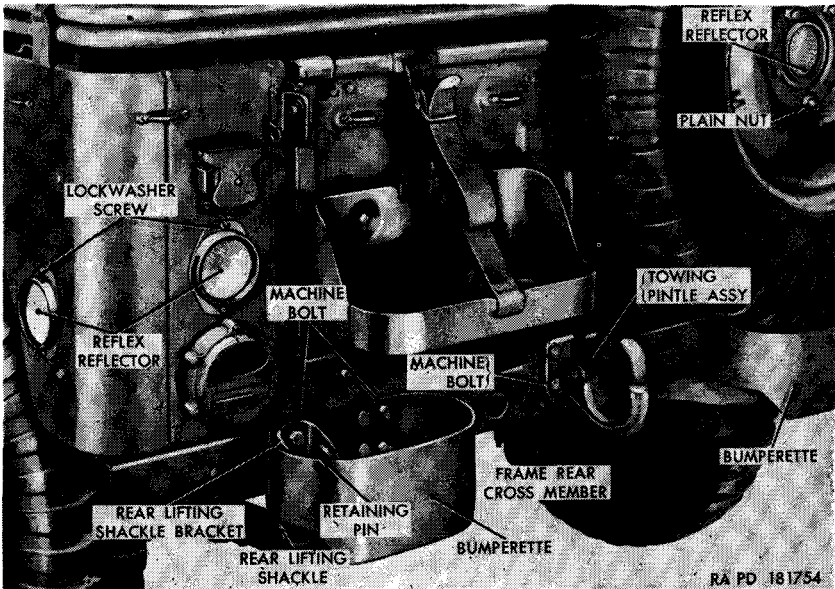
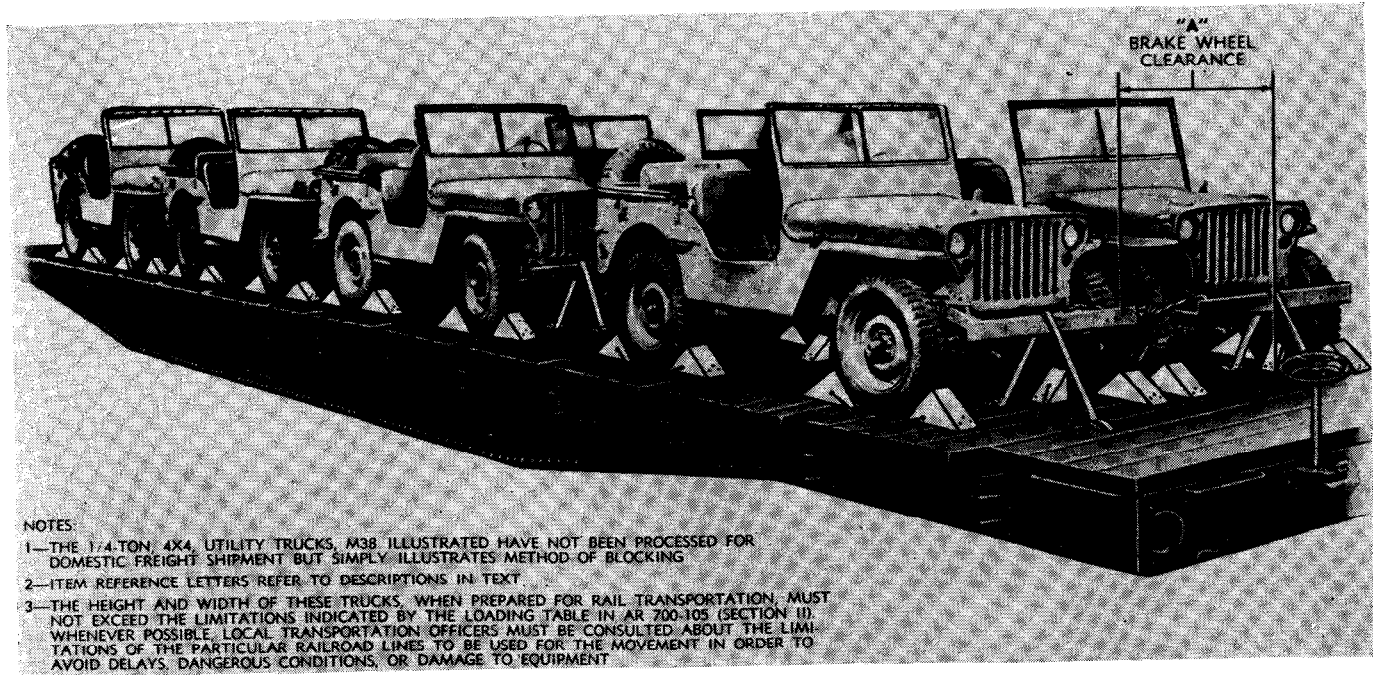
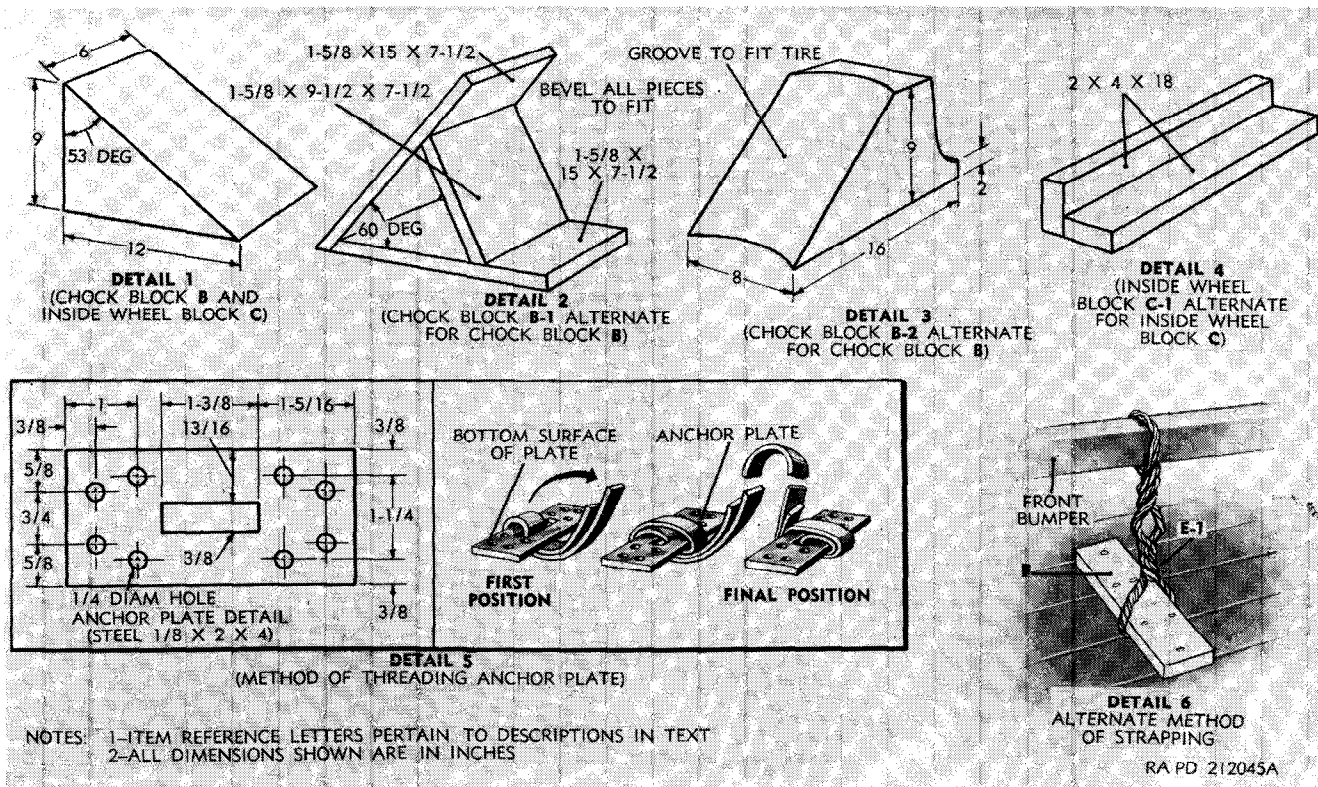

Figure 132. Bumperettes, rear lifting shackles, towing pintle assembly, and reflex reflectors.
Figure 136. Methods of blocking the 1/4-ton 4x4 utility trucks M38 on flatcars.
Figure 137. Methods of blocking the 1/4-ton 4x4 utility trucks M38 on flatcars (details)—Continued.
b. *Rear Lifting Shackles with Brackets* (fig. 132).
- (1) *Removal.* Pull the retaining clip out of the retaining pin. Withdraw the pin from the shackle bracket and remove
- (2) *Installation.* Position the shackle bracket inside the bumperette. Push two  $\frac{1}{2} \times 1\frac{1}{4}$  bolts through the shackle bracket, bumperette, and frame rear cross member and install two  $\frac{17}{32}$ -inch flat washers,  $\frac{1}{2}$ -inch lockwashers, and  $\frac{1}{2}$ -inch plain nuts. Place the shackle in the bracket, insert the retaining pin through the bracket and shackle, and install the retaining clip through the end of the pin.
*c. Towing Pintle (fig. 132).*
- (1) *Removal.* Remove the four nuts, lockwashers, and bolts securing the towing pintle to the frame rear cross member and remove the pintle.
- (2) *Installation.* Position the towing pintle on the frame rear cross member and secure in position with four  $\frac{1}{2} \times 1\frac{7}{8}$  bolts,  $\frac{1}{2}$ -inch lockwashers, and  $\frac{1}{2}$ -inch nuts.
*a. Bumper Bar (fig. 136).*
- (1) *Removal.* Remove the front lifting shackles and shackle brackets (par. 267a(1)). Remove the six plain nuts, lockwashers, and bolts securing the bumper bar to the frame side rails and remove the bumper bar.
- (2) *Installation.* Position the bumper bar at the front of the vehicle, aligning the mounting holes in the bar with the mounting holes in the frame side rails. Secure the bar to the side rails with six  $\frac{3}{8}$  x  $\frac{3}{4}$  bolts,  $\frac{3}{8}$ -inch lockwashers, and  $\frac{3}{8}$ -inch plain nuts. Install the front lifting shackles and shackle brackets (par. 267a(2)).
b. *Bumperettes* (fig. 132).
- (1) *Removal*. Remove rear lifting shackle (par. 267b(1)). Remove the two plain nuts, lockwashers, and bolts securing the bumperette to the frame rear cross member and remove the bumperette.
- (2) *Installation*. Position the bumperette on the frame rear cross member and secure in position with two  $\frac{1}{2}$  x  $\frac{7}{8}$  bolts,  $\frac{1}{2}$ -inch lockwashers, and  $\frac{1}{2}$ -inch plain nuts. Install the rear lifting shackle (par. 267b(2)).
## **270. Reflex Reflectors** (fig. 132)
Association of American Railroads. Additional blocking may be added, as required, at the discretion of the officer in charge. Double-headed nails may be used, except in the lower piece of two piece cleats. All reference letters in *b* through *e* below refer to details and locations in figures 136 and 137. The number of vehicles to be loaded will depend upon the length of flatcar.
*Note.* Three methods of blocking are given herein; the method to be used will depend on dimensions of flatcars and availability of required blocking materials. The instructions herein are for vehicles, double-loaded, as shown in figure 136. Vehicles may be single-loaded, double-deck loaded, or incline-loaded (with the front wheels of the second vehicle positioned in the rear body of the first vehicle and the front wheels of the third vehicle positioned in the rear body of the second vehicle, etc).
*Note.* Alternate type B-1 or B-2 chock blocks may be constructed as shown in details 2 and 3, figure 131, and located against tires as shown in details 1 and 2, figure 136. Single-loaded vehicles require chock blocks at the front and rear of all four wheels.
- (2) *Inside wheel blocks "C"* (6 x 9 x 12, four rqr per truck constructed as shown in detail 1, fig. 137). Locate the 6 x 9 surface of block flush against the inside of each wheel, as shown in figure 136. Nail heel of each block to car floor with four forty-penny nails and toenail each side to floor with one forty-penny nail.
*Note.* Alternate type inside wheel blocks C-1, may be constructed as shown in detail 4, figure 137, and located against tires as shown in detail 2, figure 136. When inside wheel blocks C-1 are used, cushioning material "D" (wtrprf paper or burlap) will be placed between blocks C-1 and inside of tire. The material should extend 2 inches beyond block on car floor and 2 inches above block against side of tire.
- (3) *Vehicle strapping "E" (1 in. No. 14 BW ga, hot-rolled steel, lgh to suit, two rqr per truck)*. Locate strapping "E" over front bumper of vehicle and through rear pulling hook of vehicle, as shown in figure 136. Pass strapping through two anchor plates (detail 5, fig. 137) and nail anchor plates to car floor with eight twentypenny nails. Substitute, if desired, four strands of No. 8 gage, black annealed wire, E-1, twist-tie to form cables. Pass the cable over the bumper or through the pulling hook underneath and around random 2 x 4 cleat "F" (detail 6, fig. 137). Nail cleat lengthwise to car floor and twist-tighten cables to remove all slack.
- (4) *Vehicle ties "G" (6 strands, 3 wrappings, No. 8 ga, black anld wire, lgh to suit)*. Pass cables around frame (bumpers, hooks, brackets, etc.) at front and rear of every two side-by-side vehicles as shown in figure 136. Twist-tighten cables to remove all slack.
- (1) *Wheel cleats "N" (4 in. wd, 6 in. high, 8 in. longer than width of car, four rqr per truck)*. Locate a cleat "N" across the front and rear of front and rear wheels as shown in detail 3, figure 136, and toenail each to car floor with four thirtypenny nails.
- (2) *Wheel supports "Q" (2 x 4, 2 in. longer than distance between outside faces of cleats "N", four rqr per truck)*. Locate the two-inch side of support "Q" against each side of car floor. Secure each end to cleats "N" with 1/2-inch diameter bolt, nut, and washer, as shown in detail 3, figure 136.
- (3) *Wheel cleats "J" (2 x 4, 2 in. longer than distance between outside faces of cleats "N", four rqr per truck)*. Locate cleat "J" across top cleats "N" with sides of cleats "J" flush against inside of tires, as shown in detail 3, figure 136. Nail end of each cleat "J" to cleats "N" with three twentypenny nails.
- (4) *Support cleats "P" (2 x 4 x 18, eight rqr per truck)*. Locate four cleats "P" equidistant across car floor, with ends flush against cleats "N", as shown in detail 3, figure 136. Nail cleat to car floor with four thirtypenny nails. Locate one cleat on top of each lower cleat and nail with four thirtypenny nails.
and nail to car floor with ten thirtypenny nails; locate a cleat on each lower cleat and nail with ten thirtypenny nails as shown in detail 4, figure 136.
- (2) *Wheel side cleats "J"* (2 x 4, lgh 4 in. longer than distance between outer face of cleats "H," four rqr per vehicle). Locate a cleat "J" against inside or outside of wheels as shown in detail 4, figure 136, and nail each end to cleats "H" with three twentypenny nails.
- (3) *Intermediate cleats "K"* (2 x 4, eight rqr per vehicle). Locate a cleat "K" on top of cleats "H," with end flush against cleat "J," and nail to cleats "H" with two twentypenny nails as shown in detail 4, figure 136.
- (4) *Upper cleat "L"* (2 x 4, lgh to equal cleats "H", four rqr per truck). Locate a cleat "L" across cleats "J" and nail to cleats "J" and "K" with three twentypenny nails at each end as shown in detail 4, figure 136.
- (5) *End cleats "M"* (2 x 4 x 18, total of eight rqr). Locate a cleat "M" on car floor at each end of load, with end flush against cleat "H," near each side of car, and secure with four thirtypenny nails. Locate one cleat "M" on top of each lower cleat and secure with four thirtypenny nails as shown in detail 4, figure 136.